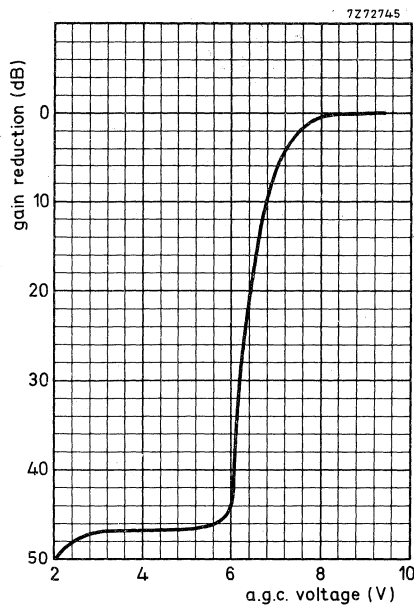

Fig. 4 A.G.C. voltage characteristic,
A.G.C. voltage (Figs 4, 5 and 6)